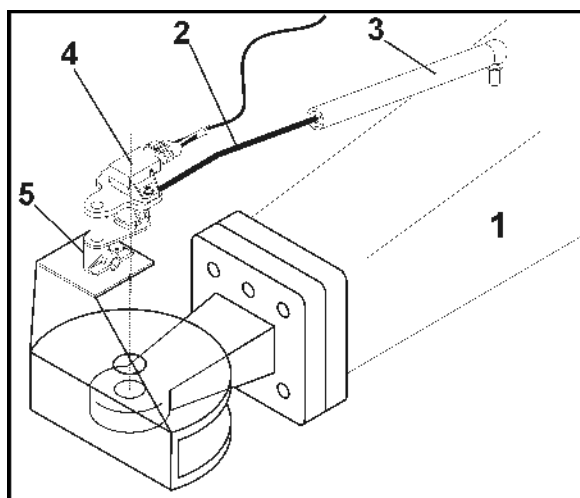

Fig. 26
Trail-Tron tracking control for automatic, virtually 100% precise tracking captures the position of the angle of the drawbar (Fig. 26/1) to determine the direction of travel of the tractor.
1. Insert the rod (Fig. 26/2) into the plastic bush (Fig. 26/3).
2. Insert the position encoder (Fig. 26/4) into the holder (Fig. 26/5).